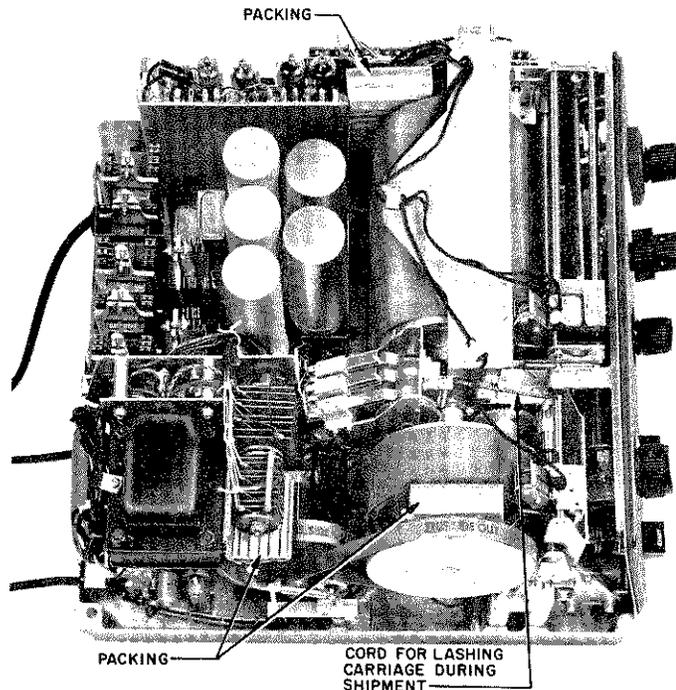

Fig. 2 — Telephone Answering Set
- Secure carriage slide rod bracket to center drum support. Use cord or lacing twine and place the carriage in the extreme left-hand position (Fig. 2).
- Place corrugated paper fillers as shown in Fig. 2.